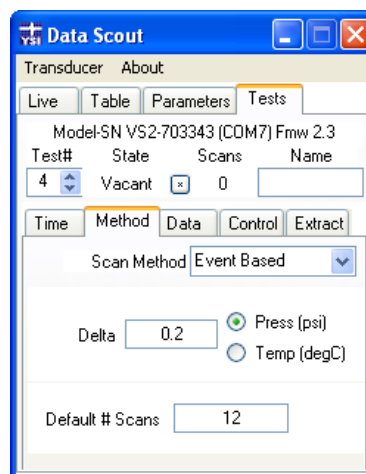

Figure 3.42
- *Event Based* - This method takes a measurement at the scan interval defined on the Time tab but does not log the measurement unless one of two conditions is met. A measurement is logged every x scans as defined by the Default # Scans in the Method tab (Figure 3.42). A measurement will also be logged if the difference between the previous measurement and the current measurement is equal to or greater than the Delta value for either the pressure (level) or temperature measurement (depending on what is selected). For example, a test is configured to log data for 3 months with a scan interval of 5 minutes (12 times an hour). The goal is to log a measurement once an hour if there is no change in water level and to log every measurement if the water level changes 0.5 feet between the 5 minute intervals. Therefore, Delta is set to 0.2 (PSI), pressure is selected and the Default # Scans is set to 12. Note, the units for Delta Pressure are always in PSI and the units for Delta Temperature are always in degrees centigrade. Any pressure or temperature change value between 0.0 and 999.9 may be specified in the Delta text box.